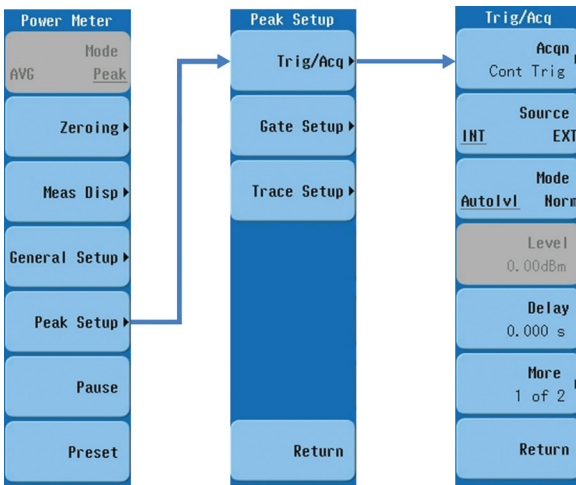

Figure 4. Menu tree for Trig/Acq
As shown in Figure 4, the **Trig/Acq** menu is accessed by selecting **Peak Setup** in the root menu of Power Meter mode and choosing **Trig/Acq**. Under this menu you can set:
- Acqn (acquisition and trigger): Continue (Cont Trig), Single, or Free Run. In Figure 4, Cont Trig has been selected.
- Source: Internal or External. In Figure 4, Internal has been chosen.
- Mode: Auto Level (Autolvl) or Normal (Norm). In Figure 4, Autolvl has been selected.